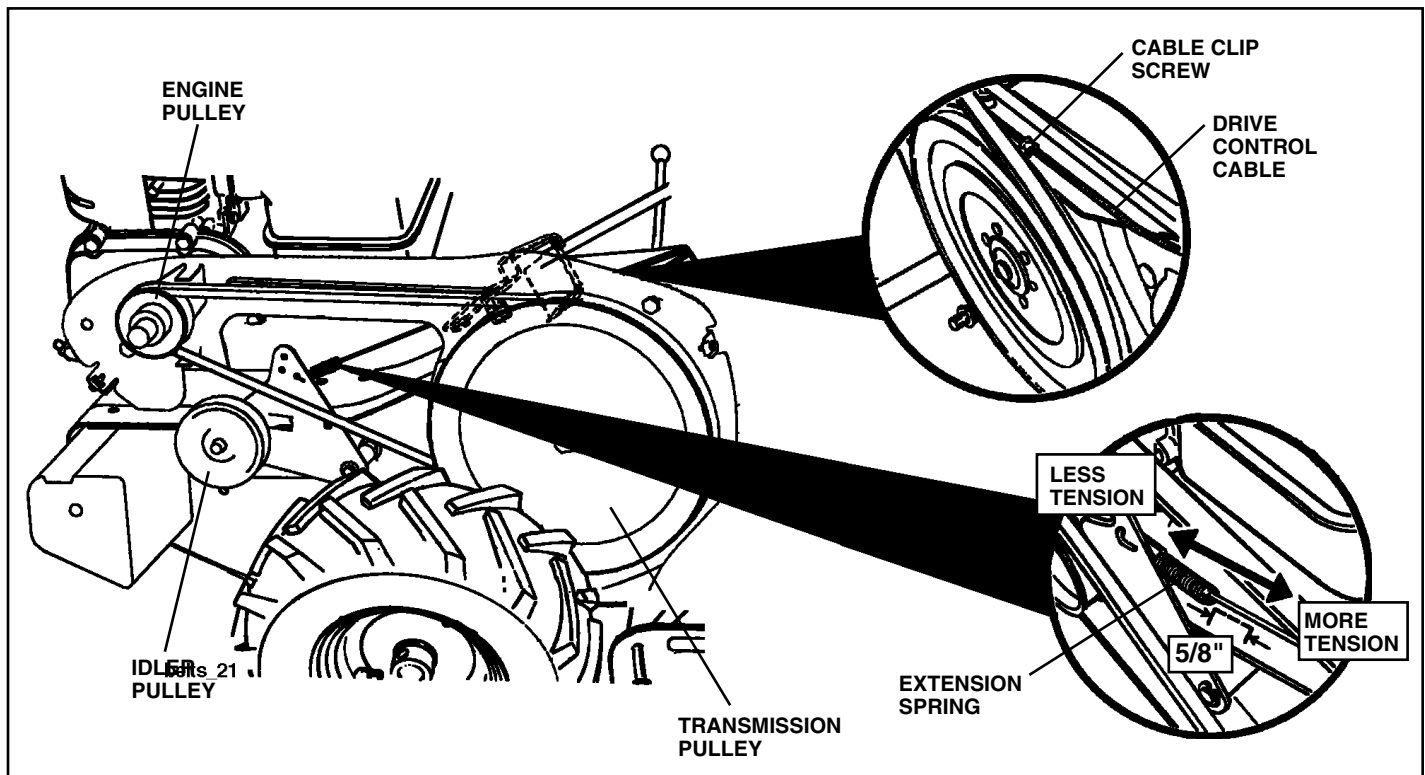

FIG. 28
- New tines should be assembled as shown in Fig. 28. Sharpened tine edges will rotate rearward from above.
(See Fig. 28)